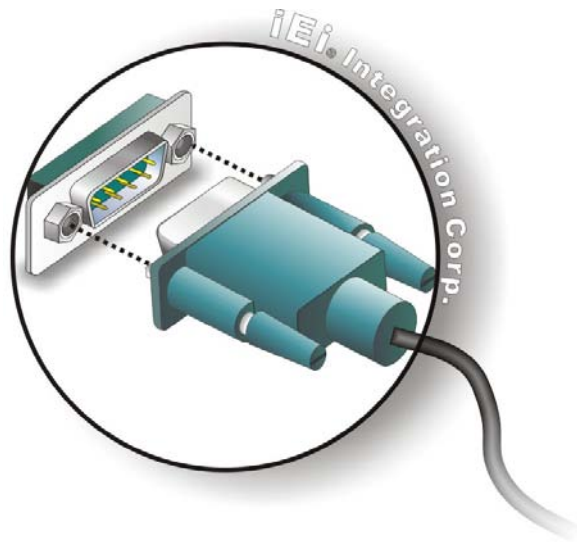

Figure 3-23: Serial Device Connector
Step 2: Insert the serial connector. Insert the DB-9 connector of a serial device into the DB-9 connector on the external peripheral interface. See **Figure 3-23**.